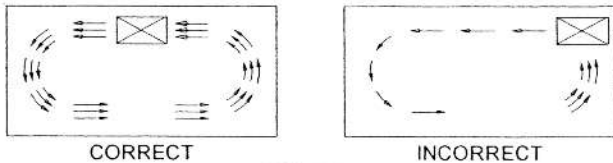

FIGURE 1
1. Never place a unit too close to a corner. Allow as much room as possible or contaminated air will be pushed past the unit instead of pulled through it. (Figure 1.)